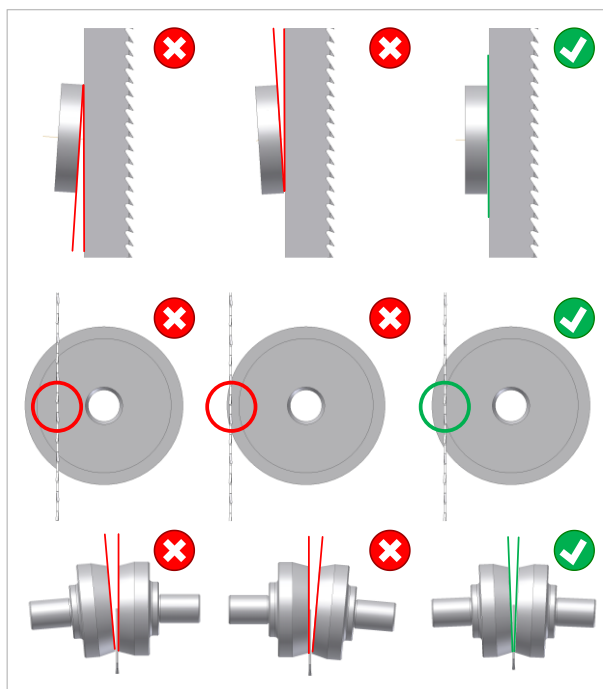

Figure 31: Basic adjustment of the back and side rollers
- Adjust the side rollers so that they only lightly touch the saw blade (see ⇒ Figure 31). Please take care that the saw blade is not pushed to the side!